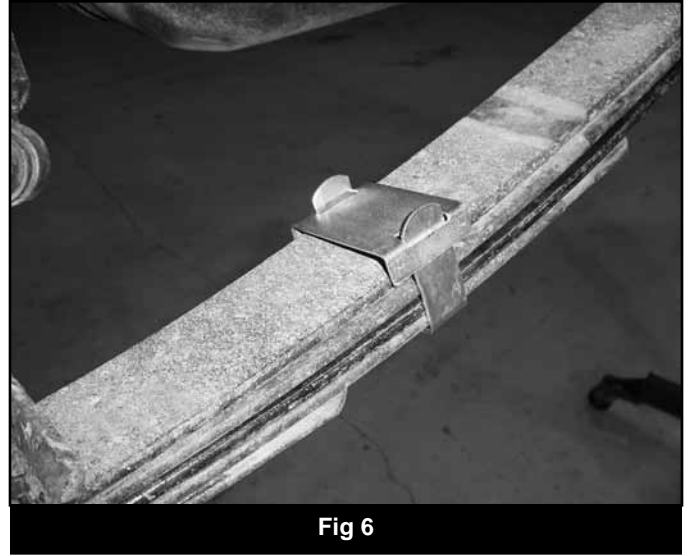

Fig 6
35. 10. Remove the C-clamps from the leaf pack and ensure the individual leafs are all inline with each other. Install the provided bend-over style clamps (HKK250) on the leaf pack (Figure 6). Install one clamp on each side of the center pin about 12" from the center pin. Bend the ends of the clamps over to secure them to the spring.